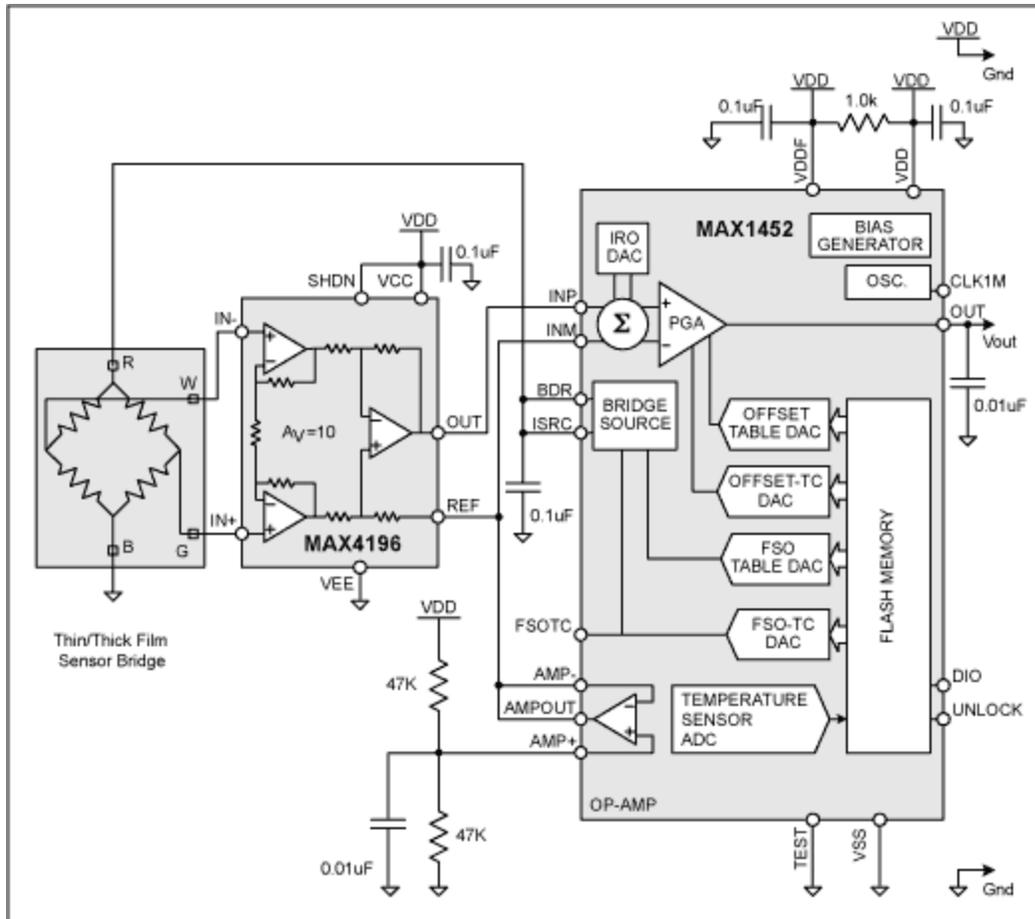

Figure 1. The MAX4196 IA amplifies the sensor signal by a fixed gain of 10.
Using the MAX4196 instrumentation amplifier (IA) as a pre-amplification circuit adds a factor of 10V/V gain to the signal path enabling TF sensor calibration and temperature compensation with the MAX1452. A complete circuit for amplifying and temperature compensating a TF sensor using this architecture is shown in **Figure 1**.